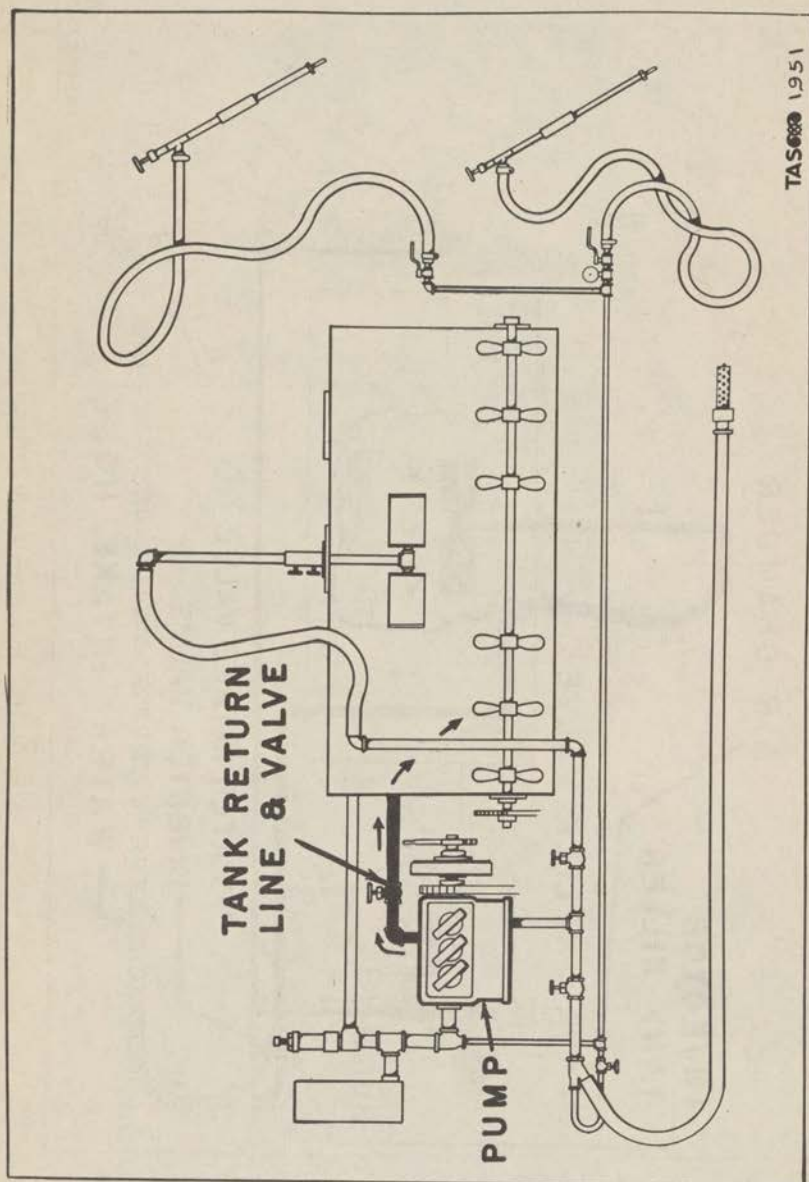

Figure 9. Tank Return Line.
(6) Tank return line. (See figure 9.) The tank return line provides a connection from the discharge side of the pump and the tank. When the tank return valve on this line is open the liquid coming from the pump will flow freely into the tank and the pump will operate under low pressure. This valve should always be open when starting the apparatus. Otherwise it is kept closed except to relieve an air locked pump or to relieve pressure in the pump and spray hose after spraying operations are stopped. (NOTE: The tank return line is located on the rear of the "Bean" tank.)